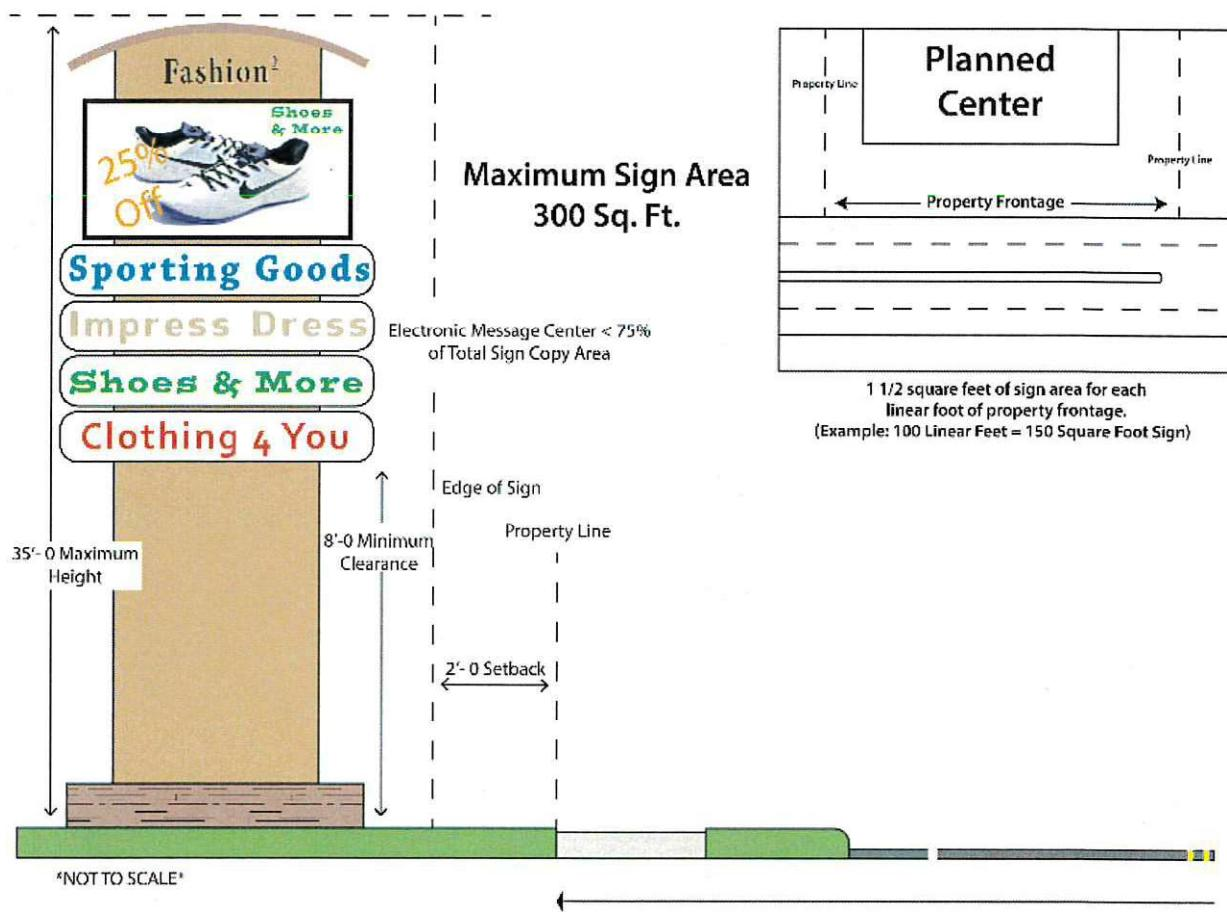

Figure 16
4. Area Standards. A pedestal sign may not exceed 1 ½ square feet of sign area for each linear foot of street frontage, with no sign exceeding a total sign area of 300 square feet per side (a maximum of two sides are allowed). Each sign must be part of an approved sign theme or integrated architecturally with the buildings. Reader boards, changeable copy areas, and electronic message centers shall not exceed 75 percent of the total sign copy area of the sign (*See Figure 16*).
5. Height Standards. The maximum height of a pedestal sign is thirty-five (35) feet above pavement grade or ground level. On properties adjacent to freeways, where the sign is freeway oriented, maximum sign height may be determined from freeway grade.